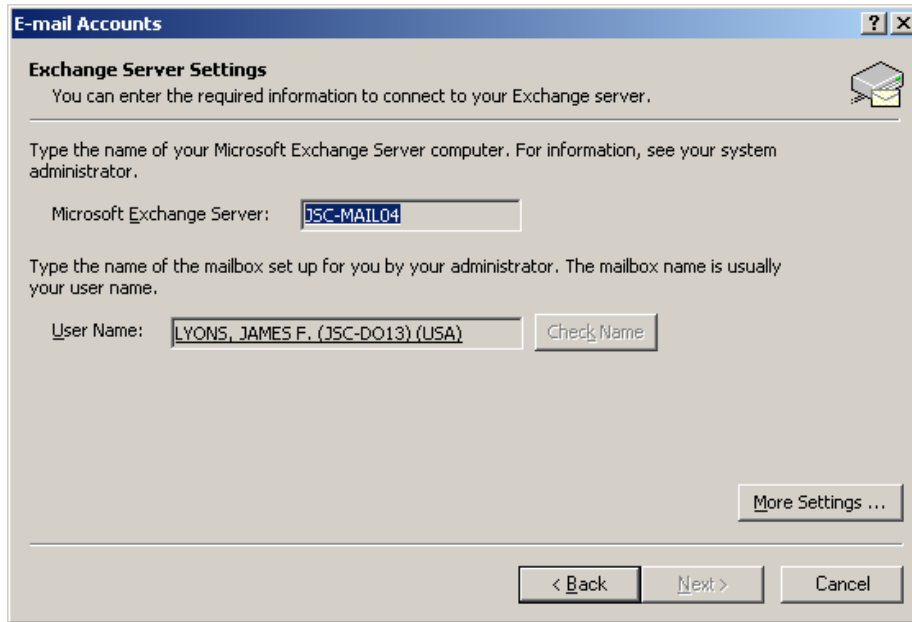

Figure 5-10. E-mail Accounts window number three
3. Click on the **Change** button. The window shown in Figure 5-10 appears.